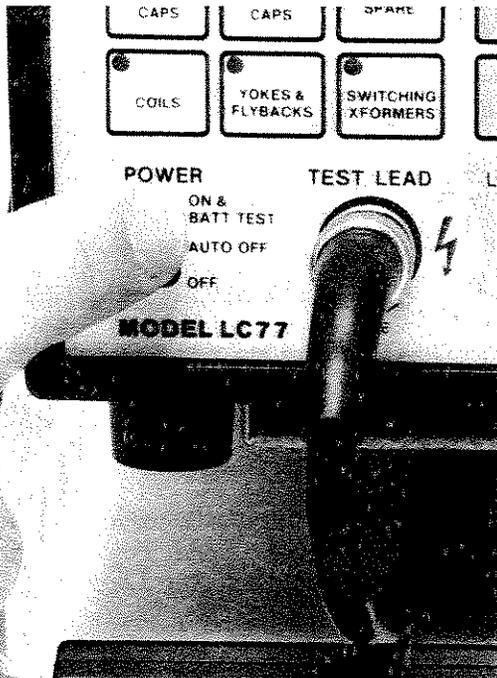

Fig. 8 — Push the Power switch to “On & Batt Test” to read the remaining battery charge.
2. Read the percentage of remaining battery charge in the LCD DISPLAY, as shown in figure 8.